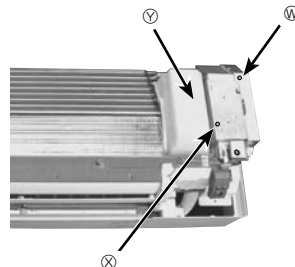

Fig. 6-4
4. Hold the lower part of both ends of the panel and pull it slightly toward you, and then remove the panel by pushing it upward. (Fig. 6-4)
5. Remove the front and side electrical box covers (each 1 screws). (Fig. 6-4)
6. Remove the water cut. (Fig. 6-4)